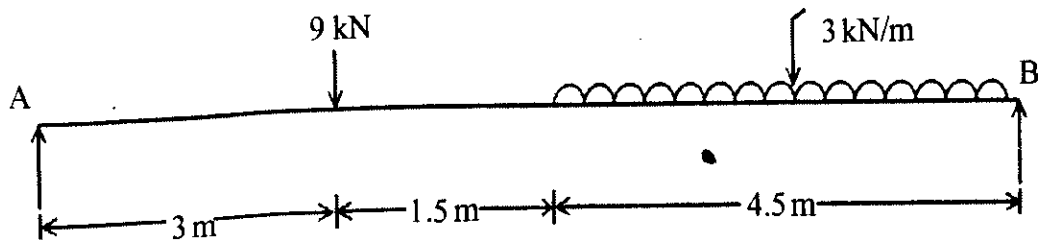

Fig.1
- Q.1 (a) A beam AB of 9m Span is simply supported at the ends and is loaded as shown in Fig.1. Determine - [16]